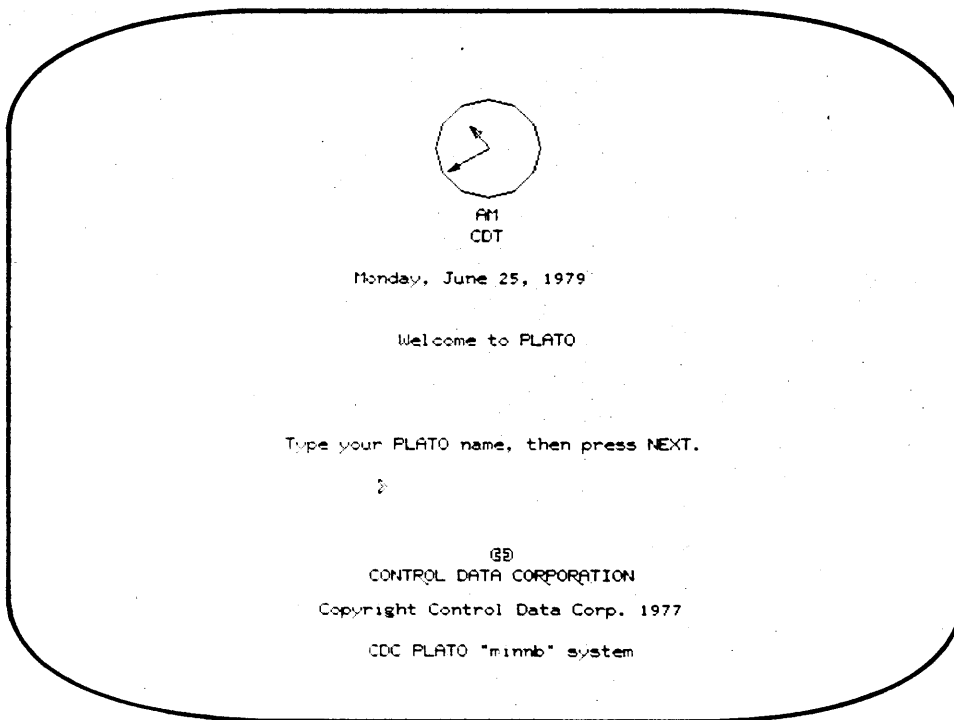

Figure 2-2. Welcome Display
- a. Welcome Display (figure 2-2) appears when the system is operating normally (prime time). Go to step 3.